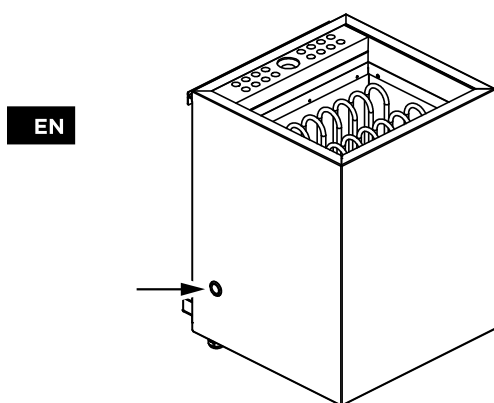

Abbildung 16. Resetting the overheat protector
- Check that the overheat protector has not tripped. (Abbildung 16. Resetting the overheat protctor)
- Instructions for resetting the steamer overheat protector (Abbildung 16. Resetting the overheat protector)